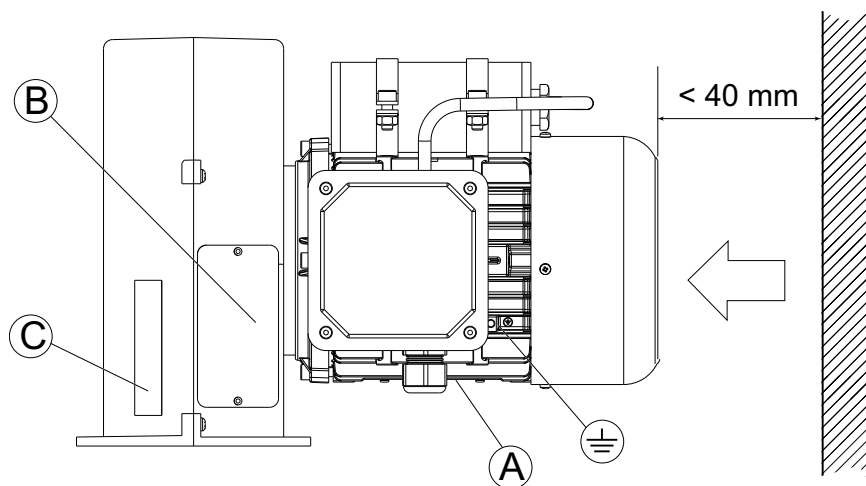

Fig. 1
EX 140A/180A are certified according to Directive 2014/34/EU (ATEX). Fan Category for fans is BV3 quality grade G6.3 according to ISO 14694. The motor rating plate (A, figure 1) shows data for the motor and does not apply for the complete fan. The fan rating plate shows data for the complete fan (B, figure 1). The field of explosion protection is stated on the fan rating plate (for example Ex de IIC T4). The fan fulfils the requirement for zone 1 but does not separate zones. Fan may be used in explosive environments for the transport of gas, but not the transport of hot fumes.
Protective earth (PE) must be connected, the external ground wire connection is placed on the motor (figure 1). Electrical connections must be made according to the wiring diagram. When the fan is controlled the current can increase at regulated voltage, the power must never exceed the rated power, see table 1. Data provided on the rating plate applies to air with density of 1.2 kg/m³.
Before starting installation check for any transport damage and that the impeller do not touch parts of the fan housing. Ambient temperature and the conveyed air temperature should be between -20°C and $+60^{\circ}\text{C}$ for all versions. EX 140A/180A are intended for operation within the specified temperature range. The motor is cooled by a integrated cooling fan which openings must not be covered, min. distance to the air intake is 40 mm (see figure 1). Avoid heat sources near the motor and the motor air intake.
Connection cable to the fan should be installed so that it is mechanically protected and suitable for use in the surrounding environment. Connection cable for the EX 140A/180A should have a diameter of 6.5 to 12 mm and a cross section of $1.5\text{-}2.5\text{ mm}^2$. The junction box on the motor is designed for the same environment as the fan. For external grounding of the chassis ground cable should be mounted on the grounding screw on the motor (figure 1).